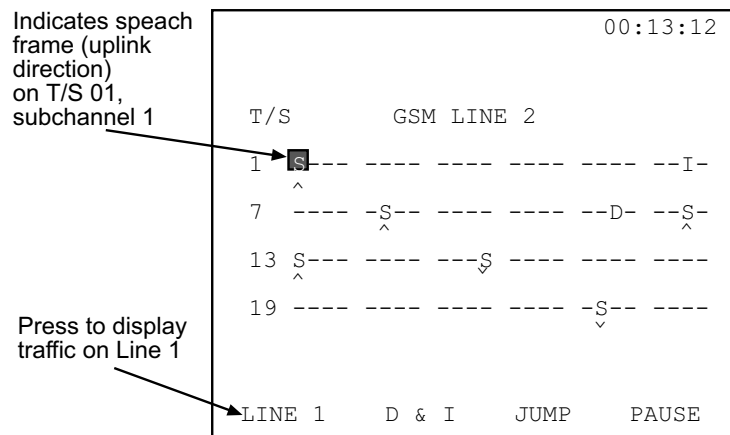

Figure 208 GSM Monitor Screen
3. Select OTHER MEASUREMENTS > GSM VOICE/TRAU/BERT, GSM MONITOR. Refer to Figure 208.
Displayed in Figure 208 are all 24 timeslots. The top row contains timeslots 1–6; the second row has 7–12, and so on. Also shown in this screen are the 4 sub-channels contained within each timeslot. This screen shows the timeslots on LINE 2; alternately, press the LINE 1 (F1) F-key to view the activity on LINE 1. Use this screen to monitor for the following TRAU frames on each sub-channel: